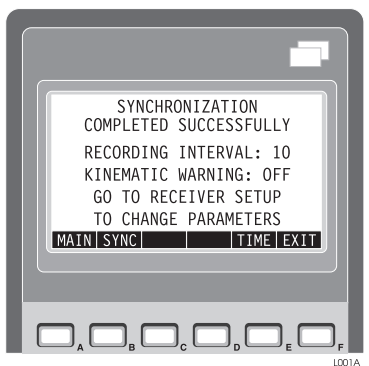

Figure 3.15: Synchronization Completed Successfully Screen
3. After 10-15 seconds, the Synchronization Completed Successfully screen appears (Figure 3.15).